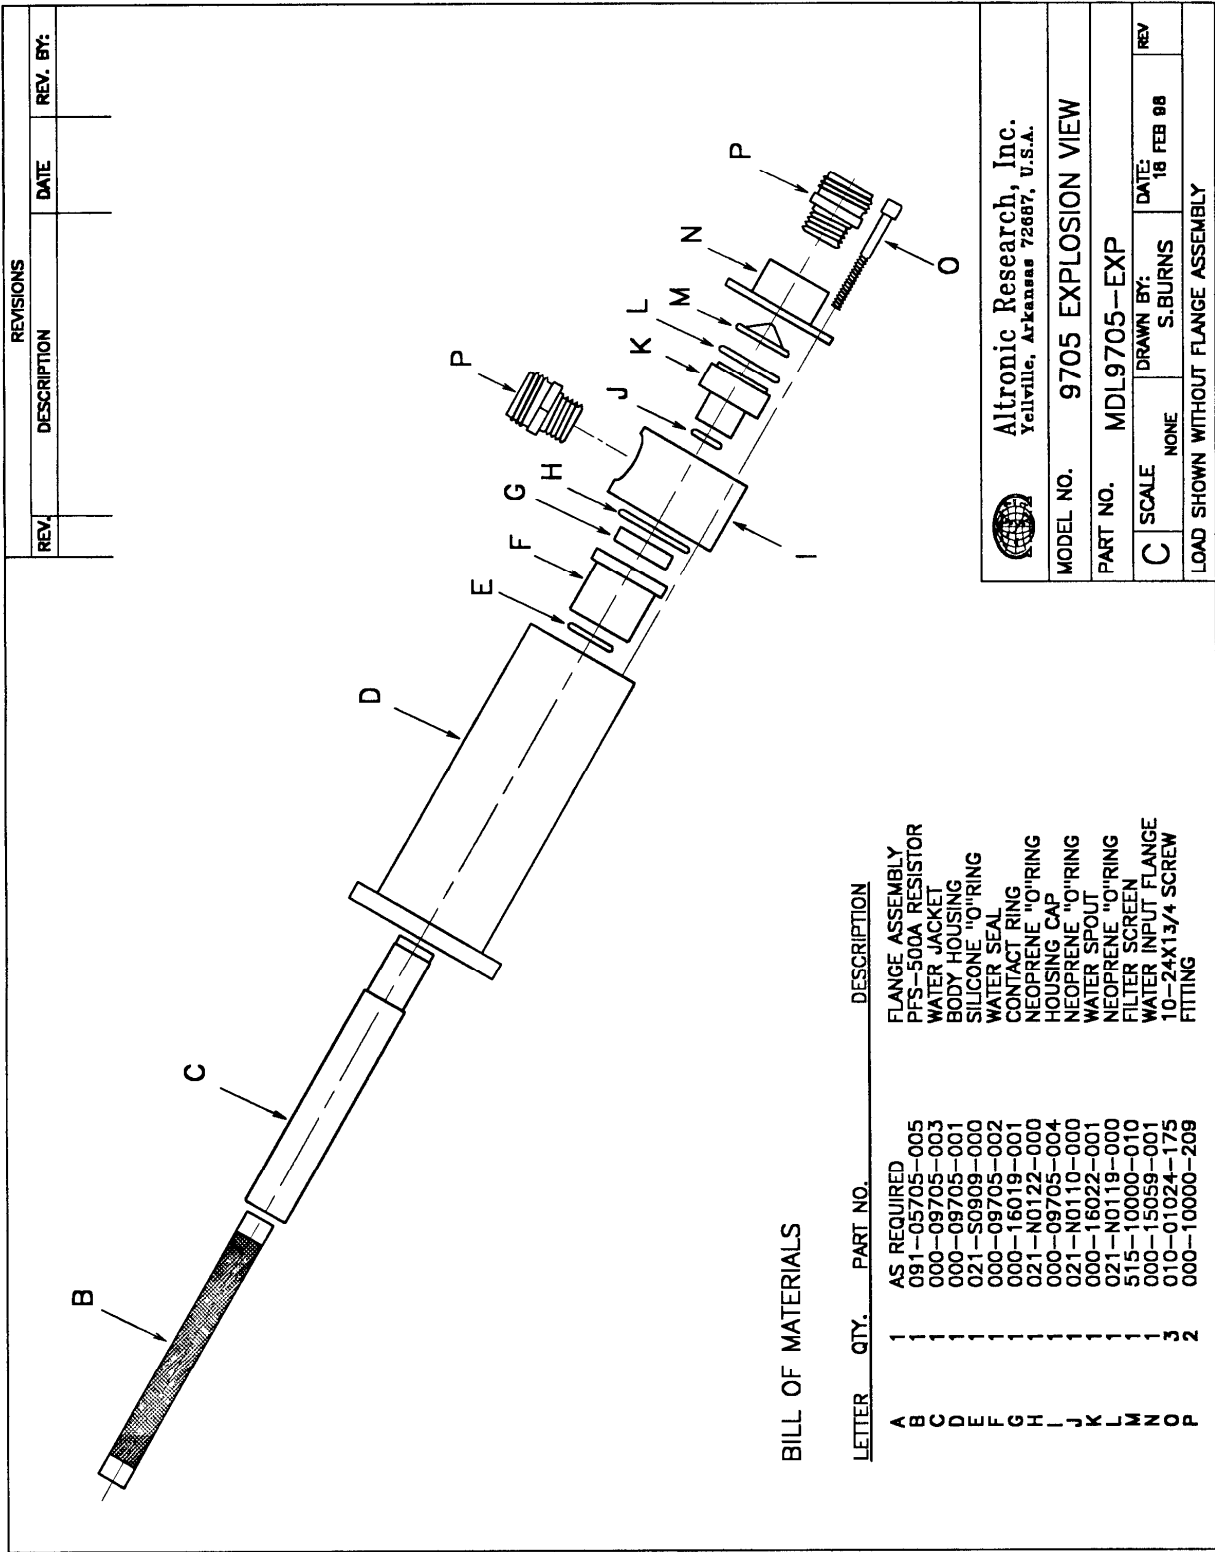
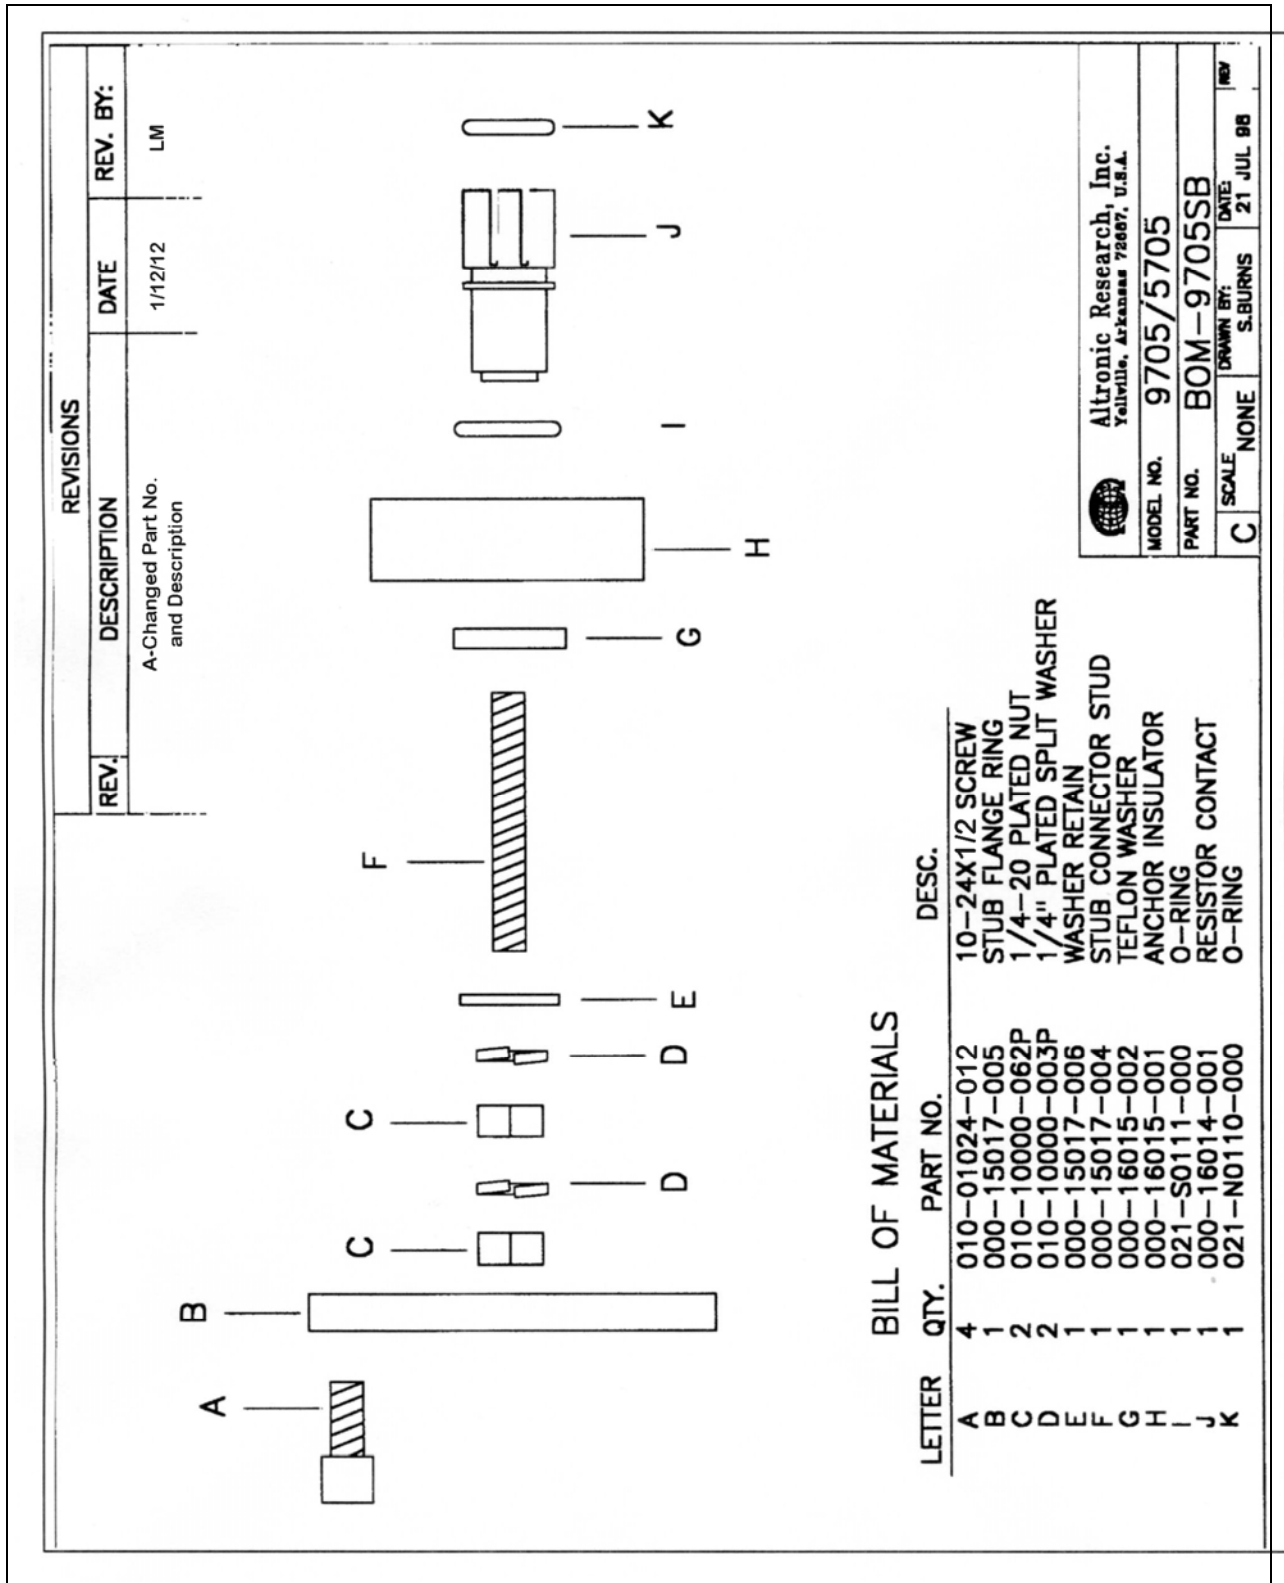

Fig. 14
Fig. 15
4. **Resistor Replacement** - (Refer to Fig. 14) To replace the resistor element, remove the three 10-24x1-3/4" cap screws (item O). Remove water input assembly (items M, N, and P). Inspect filter screen for damage, replace if eroded or torn. Remove housing cap assembly (items G, H, I, P, J, K and L). Inspect all O-rings for distortion or damage. Replace if pinched, cut, burned or no longer round in cross section. Inspect ring contact (item G) for signs of arcing or loss of silver in the area of contact with the resistor contact band. Replace if damage is noted. If resistor (item B) is not broken, grasp by the end
- 5. Removal of RF Input** - (Refer to Figure 15) To remove the RF input stub flange ring, remove four 10-24x 3/8" socket head screws (item A) that secure the stub flange ring (item B) to the load body housing (item D, Fig. 14). The RF input assembly consisting of the stub connector, anchor insulator and front resistor contact (items C, D, E, F, G, H, I, J and K) will normally remain in the load body. Grasp the stub connector (item F) by hand and attempt to pull the input assembly out of the load body using slight side to side motion while pulling. If strong resistance is encountered, it may be necessary to chill the load to allow the anchor insulator to shrink away from the load housing. This can be done by placing the load in a freezer, or packing the load in ice for 20 to 30 minutes. Once the anchor insulator has shrunk away from the load housing, the RF input assembly should be easily removed. At this point of disassembly, all components of the load can be inspected or replaced as needed. Reassembly should be done in the reverse order of sequence.